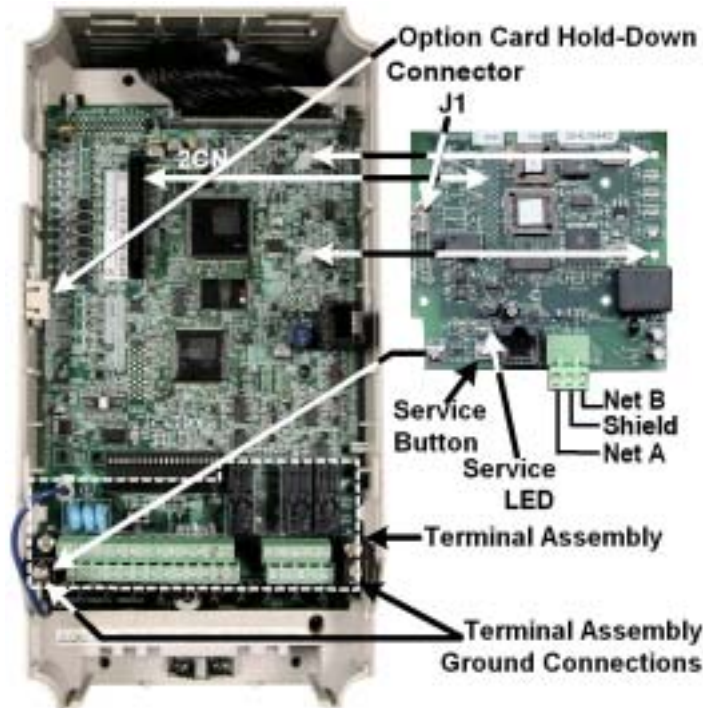

Figure 1.2 – Mount the LONWORKS Option
- 4.2:** Mount the *LONWORKS Option* on the drive. Refer to **Figure 1.2 – Mount the LONWORKS Option**.